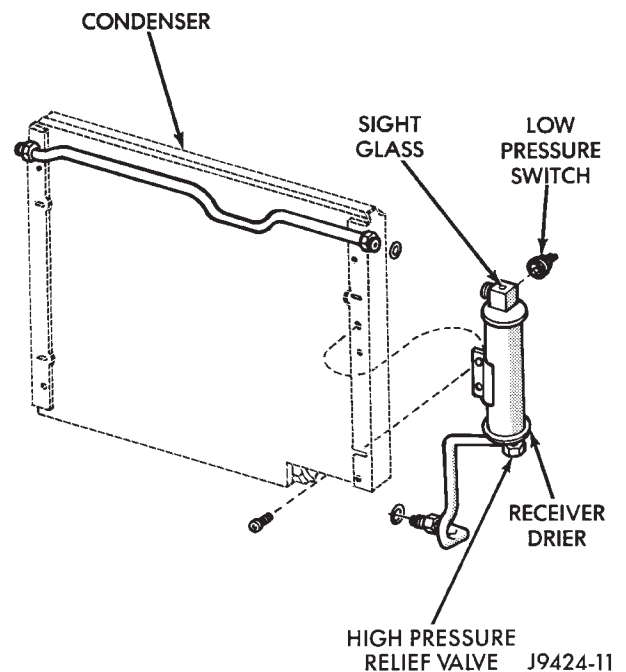

Fig. 16 Condenser Filter Drier—LHD 2.5L Engine
- (1) Drain the radiator.
- (2) Disconnect the fan shroud and the radiator hoses.
- (3) Disconnect the transmission cooler lines (if equipped with automatic transmission).
- (4) Recover refrigerant from the system and disconnect A/C lines from the condenser.
- (5) Unplug the harness from the pressure cut-off switch (Fig. 16).
- (6) Remove the radiator and condenser as an assembly.
- (7) Remove the retaining bolts and separate the condenser from the radiator.
- (8) Remove the filter drier from the condenser.
- (1) Remove the plugs from the filter drier openings. Install filter drier into the condenser.
- (2) Install the condenser to the radiator. Tighten the retaining bolts.
- (3) Install the radiator and condenser as an assembly (refer to Group 7, Cooling System for the proper procedure).
- (4) Plug the harness into the low pressure switch (Fig. 16).
- (5) Connect the A/C hoses to the condenser.
- (6) Connect the transmission cooler lines (if equipped with automatic transmission).
- (7) Connect the fan shroud and the radiator hoses.
- (8) Fill coolant system (Refer to cooling for proper procedure).
- (9) Evacuate and charge the A/C system.